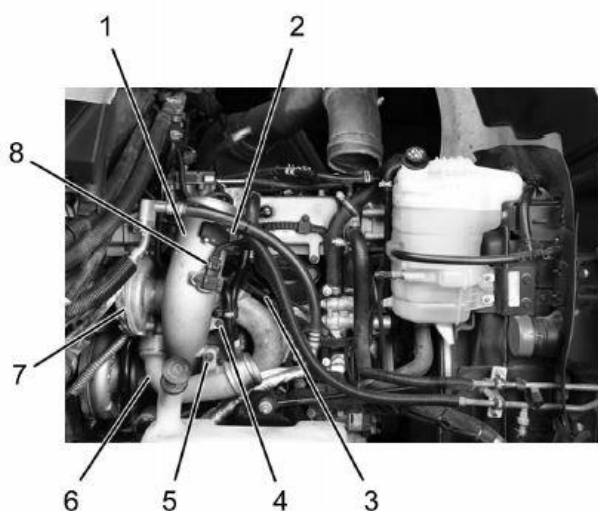

Figure 2: HP and LP Turbocharger Connections
- Item 4: LP turbocharger inlet duct bolt (2) (one not shown)
- Item 5: HP turbocharger outlet duct bolt (2) (one not shown)
7. If equipped, disconnect Mass Air Flow (MAF) sensor connector (Figure 2, Item 2).
8. Disconnect Turbocharger 2 Compressor Inlet Pressure (TC2CIP) sensor connector (Figure 2, Item 3).
9. Disconnect Air Inlet Temperature (AIT) sensor connector (Figure 2, Item 8) and position engine harness aside.
10. Remove two HP turbocharger outlet duct bolts (Figure 2, Item 5) and HP turbocharger outlet duct (Figure 2, Item 6) from HP turbocharger (Figure 2, Item 7). Remove and discard HP turbocharger outlet duct O-ring seal.
11. Remove two LP turbocharger inlet duct bolts (Figure 2, Item 4) and LP turbocharger inlet duct (Figure 2, Item 1) from LP turbocharger. Remove and discard LP turbocharger inlet duct O-ring seal.